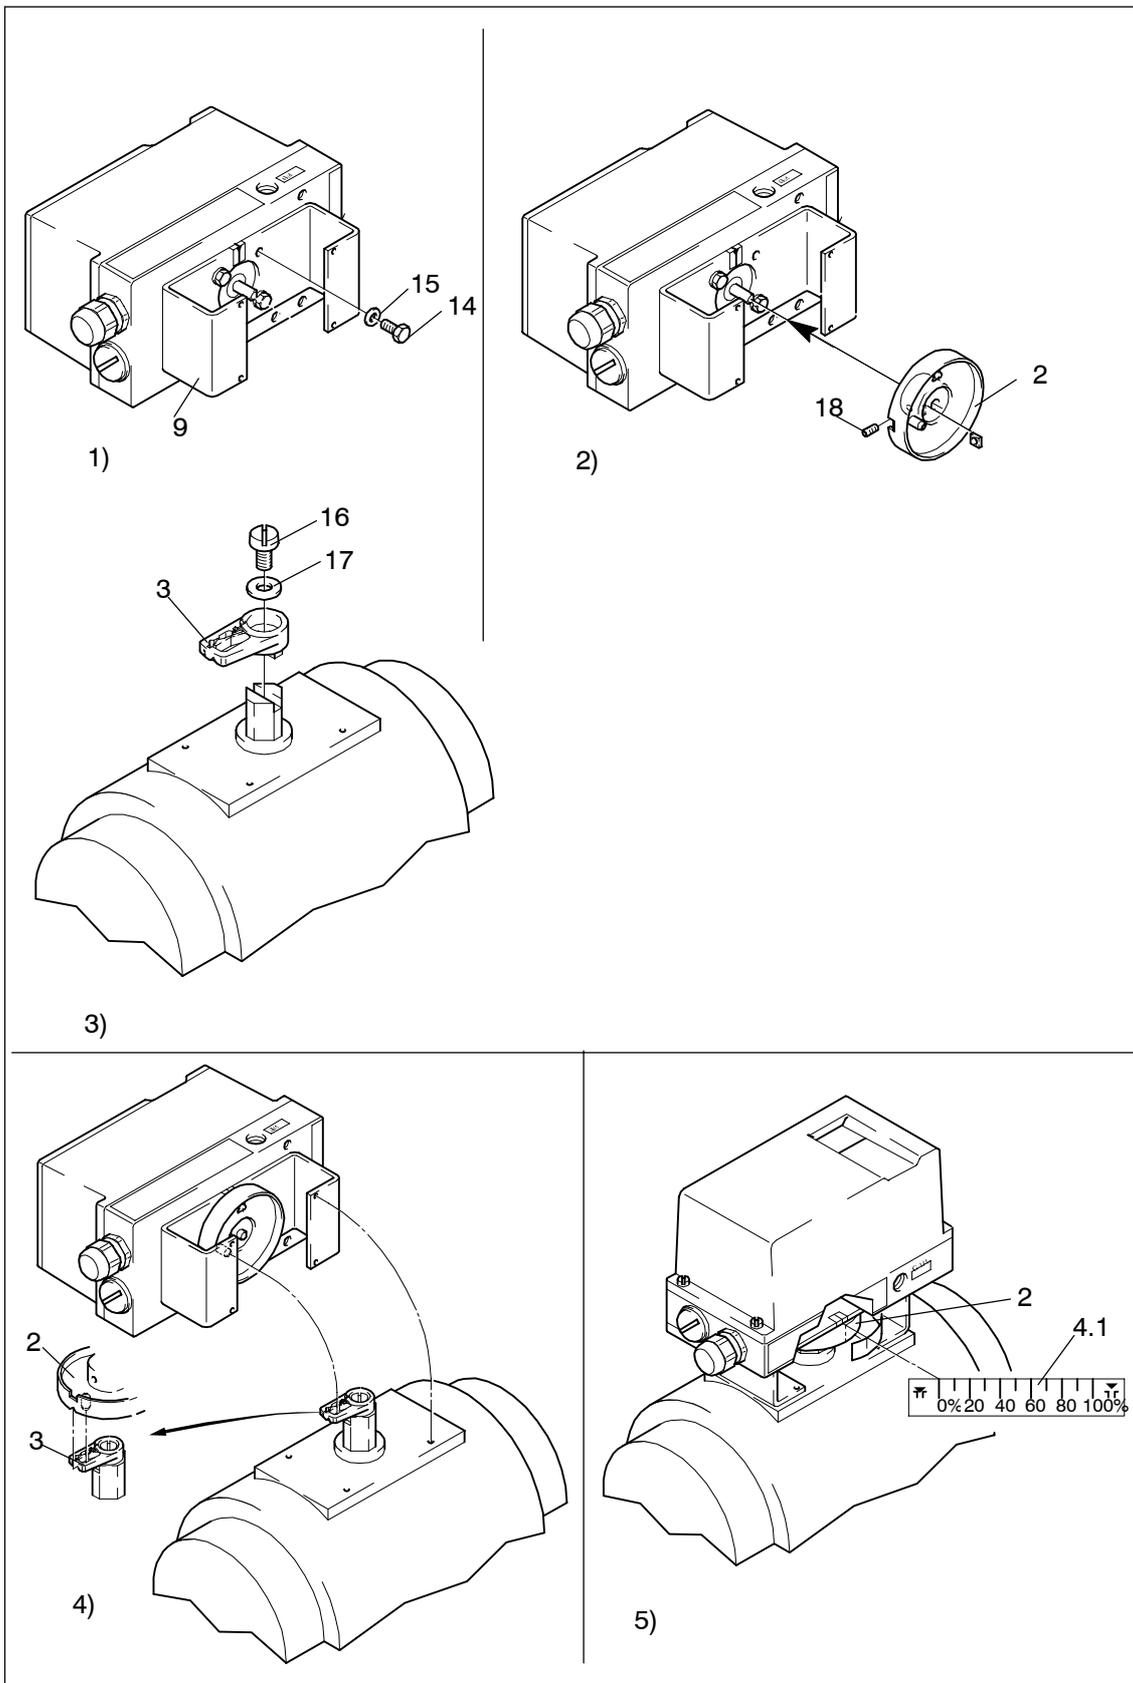

Figure 3-8 Assembly procedure (rotary actuator)
The scope of delivery of the mounting kit "Rotary actuator" contains (ser. no. see figures 3-8 and 3-9):
3.3.6 Assembly procedure (see figure 3-8 and figure 3-9)